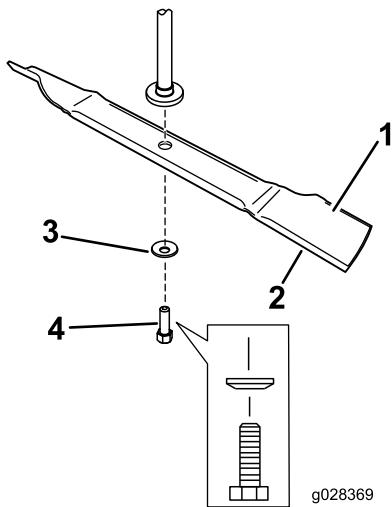

Figure 8
1. Install the blade onto the spindle shaft (Figure 8).
2. Install the curved washer (cupped side toward the blade) and the blade bolt (Figure 8).
Note: Do not install a blade stiffener. These blades do not require the blade stiffener (Figure 8).